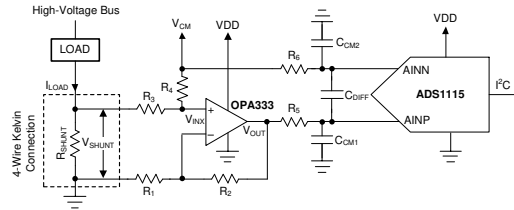

Figure 9-6. Low-Side Current Shunt Monitoring
Shunt-based, current-measurement solutions are widely used to monitor load currents. Low-side, current-shunt measurements are independent of the bus voltage because the shunt common-mode voltage is near ground. Figure 9-6 shows an example circuit for a bidirectional, low-side, current-shunt measurement system. The load current is determined by measuring the voltage across the shunt resistor that is amplified and level-shifted by a low-drift operational amplifier, OPA333. The OPA333 output voltage is digitized with ADS1115 and sent to the microcontroller using the I²C interface. This circuit is capable of measuring bidirectional currents flowing through the shunt resistor with great accuracy and precision.
1. To level-shift the ground-referenced signal to allow bidirectional current measurements while running off a unipolar supply. The voltage across the shunt resistor, V_{SHUNT}, is level-shifted by a common-mode voltage, V_{CM}, as shown in Figure 9-6. The level-shifted voltage, V_{INX}, at the noninverting input, is given by Equation 5.
A shunt resistor (R_{SHUNT}) is an accurate resistance inserted in series with the load as shown in Figure 9-6. If the absolute voltage drop across the shunt, $|V_{SHUNT}|$, is a larger percentage of the bus voltage, the voltage drop can reduce the overall efficiency and system performance. If $|V_{SHUNT}|$ is too low, measuring the small voltage drop requires careful design attention and proper selection of the ADC, operation amplifier, and precision resistors. Make sure that the absolute voltage at the shunt terminals does not result in violation of the input common-mode voltage range requirements of the operational amplifier. The power dissipation on the shunt resistor increases the temperature because of the current flowing through the resistor. To minimize the measurement errors resulting from variation in temperature, select a low-drift shunt resistor. To minimize the measurement gain error, select a shunt resistor with low tolerance value. To remove the errors caused by stray ground resistance, use a four-wire Kelvin-connected shunt resistor, as shown in Figure 9-6.